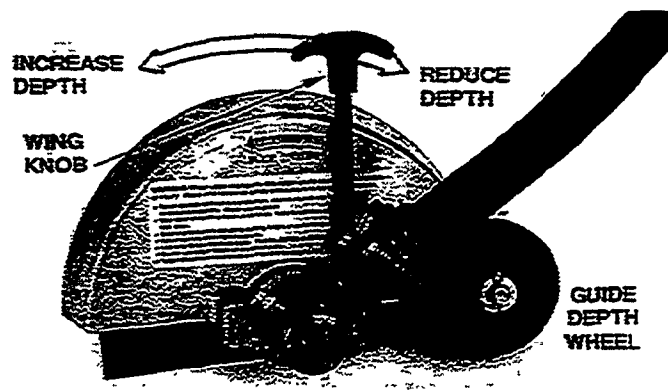

Figure 33
- Before using your edger you should adjust the depth of cut by rotating the blade shield to which the guide/depth wheel is attached (Fig. 33).
- To adjust the blade's depth of cut, first loosen the wing knob as shown (Figure 33)